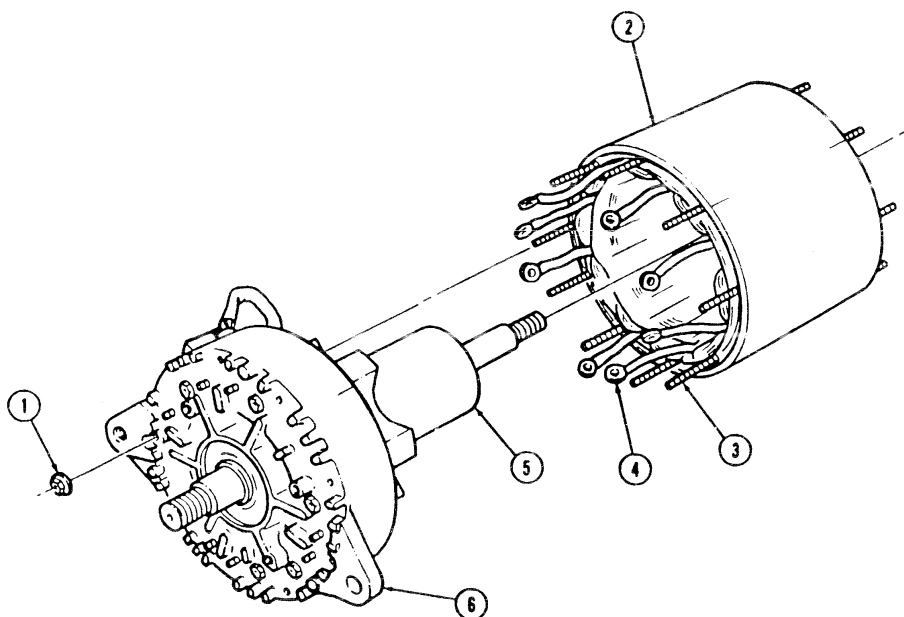

FIGURE 3-51
- (8) Install retaining ring (1) on core and shaft assembly (2). (9) Insert core and shaft assembly (5) and front housing assembly (6) into shell stator/ field coil assembly (2). (see figure 3-51)
- (10) Feed leads (4) from shell / stator / field coil assembly (2) through front housing assembly (6). (see figure 3-51)
- (11) Apply NSN 8030-00-111-2762 sealing compound to studs (3) on shell stator / field coil assembly (2).
- (12) Secure front housing assembly (6) to shell / stator/ field coil assembly (2) with nine locknuts(1). Tighten locknuts (1) to 18 lb-in (2 N●m).